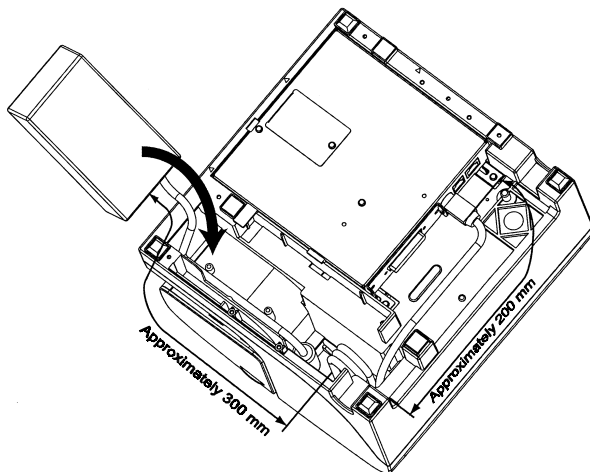

Figure 4.5.1
- ① Bundle the power supply cord in the length as shown in Figure 4.5.1.
- ② Put the bundled cord into the printer first; then insert the power supply as shown in Figure 4.5.1